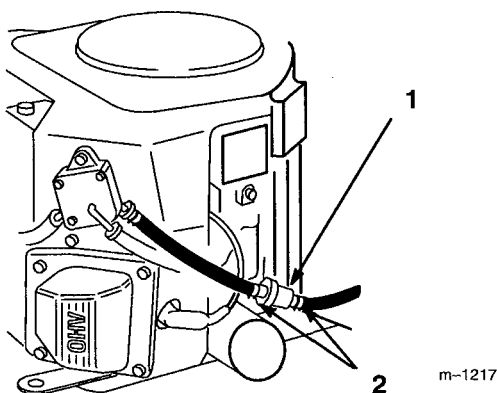

Figure 27
3. Squeeze the ends of the hose clamps together and slide them away from the filter (Fig. 27).